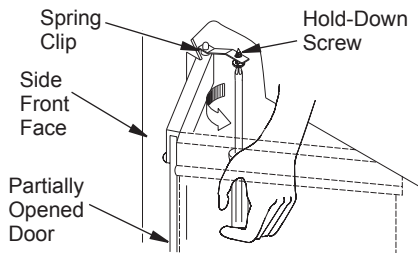

Figure 32 - Adjusting Glass Doors
7. To adjust doors, slide them partially open. Using a screwdriver, loosen hold-down screws in spring clip and pivot plate (see Figure 32).